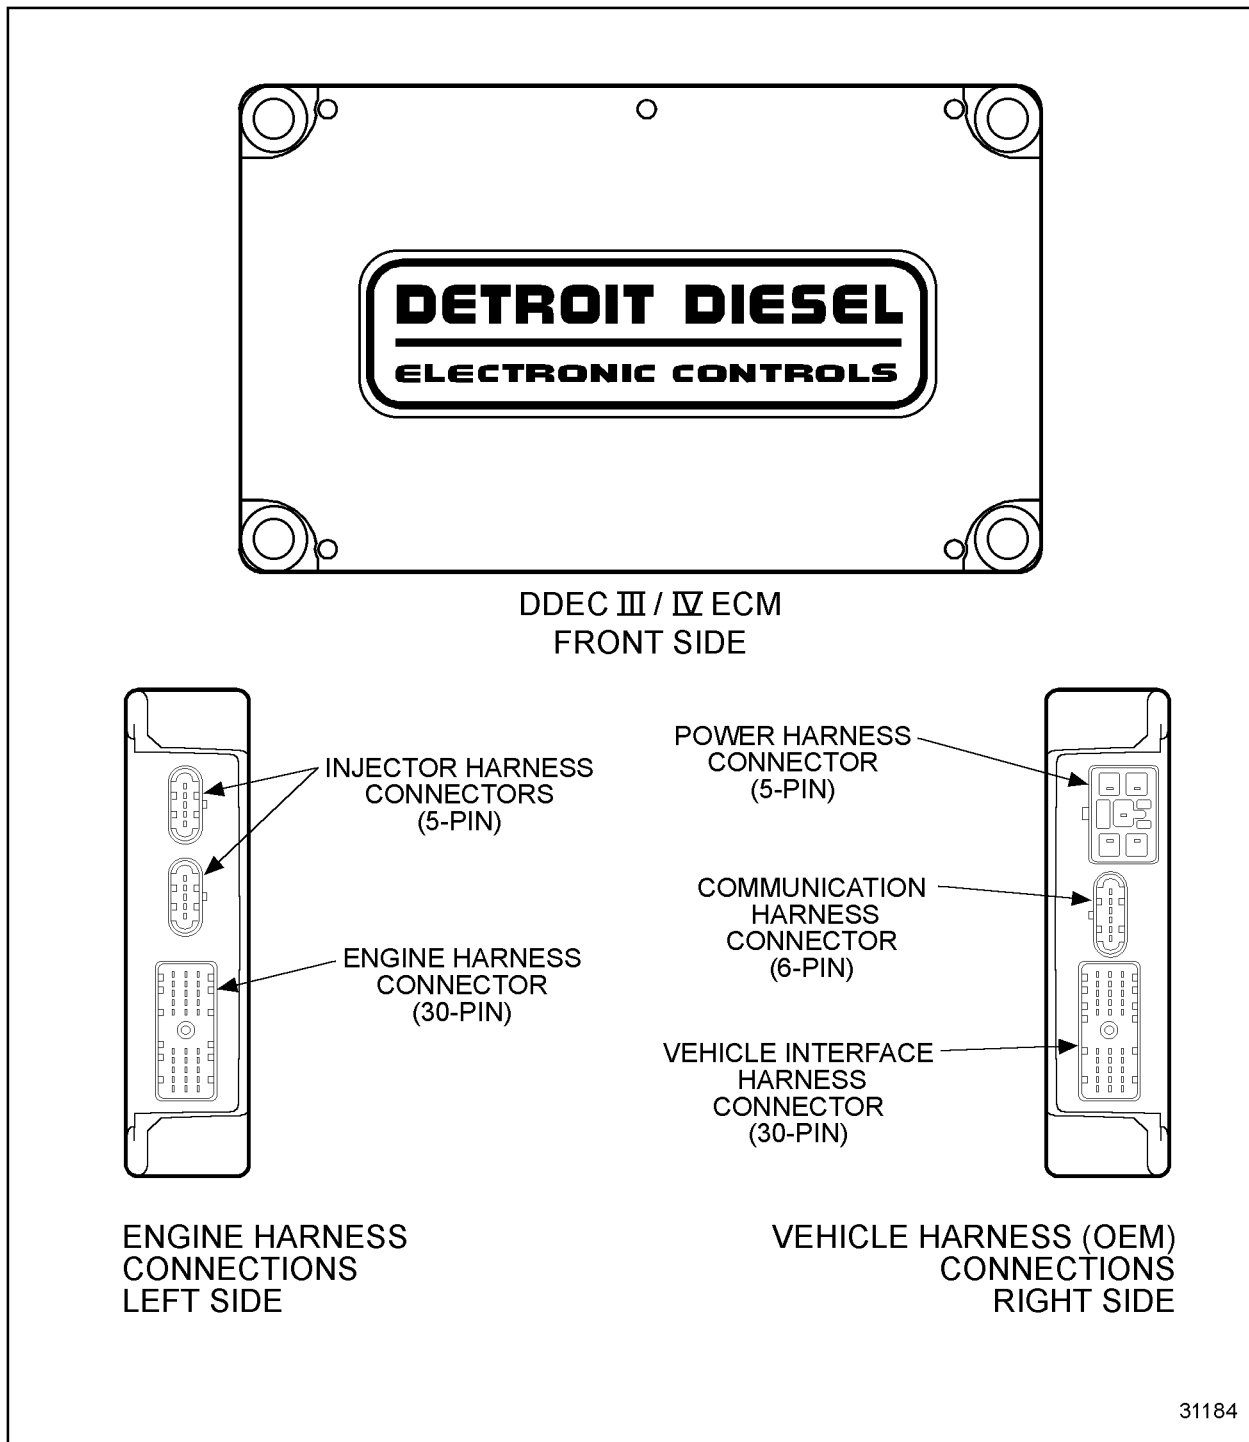

Figure 73-1 ECM
- ☐ When used with the Engine Synchronous Shift (ESS) system on diesel fuel engines, this code indicates a fault was detected by the ECM, see Figure 73-1, of the input from the shift knob or Neutral Switch.